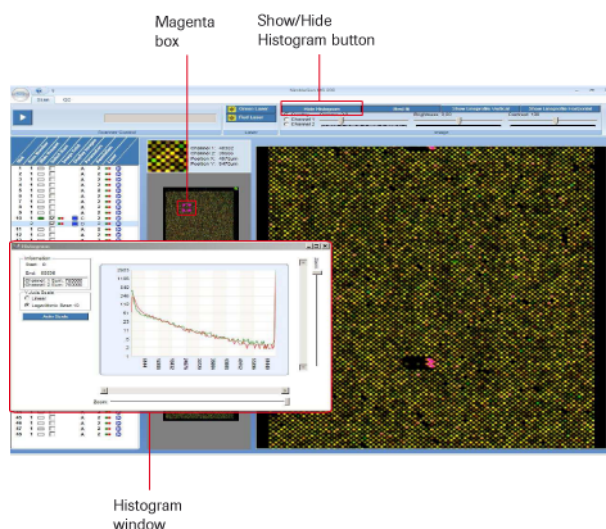

Figure 20: Example Window Showing Magenta Box in the Slide View, Show/Hide Histogram Button, and Histogram Window
- b.** Click **Show Histogram** in the Image Control (Figure 18) to view the histogram. Use the zoom feature (magenta box in the Slide View, Figure 20), to select where to view the histogram.
2. To view a small region of the array and to select where to view the histogram (Figure 20), reduce the size of the magenta box that outlines the slide image in the Slide View so that the magenta box surrounds the area of interest. The area of interest will appear in the Image View. Click **Show/Hide Histogram** to display the histogram.